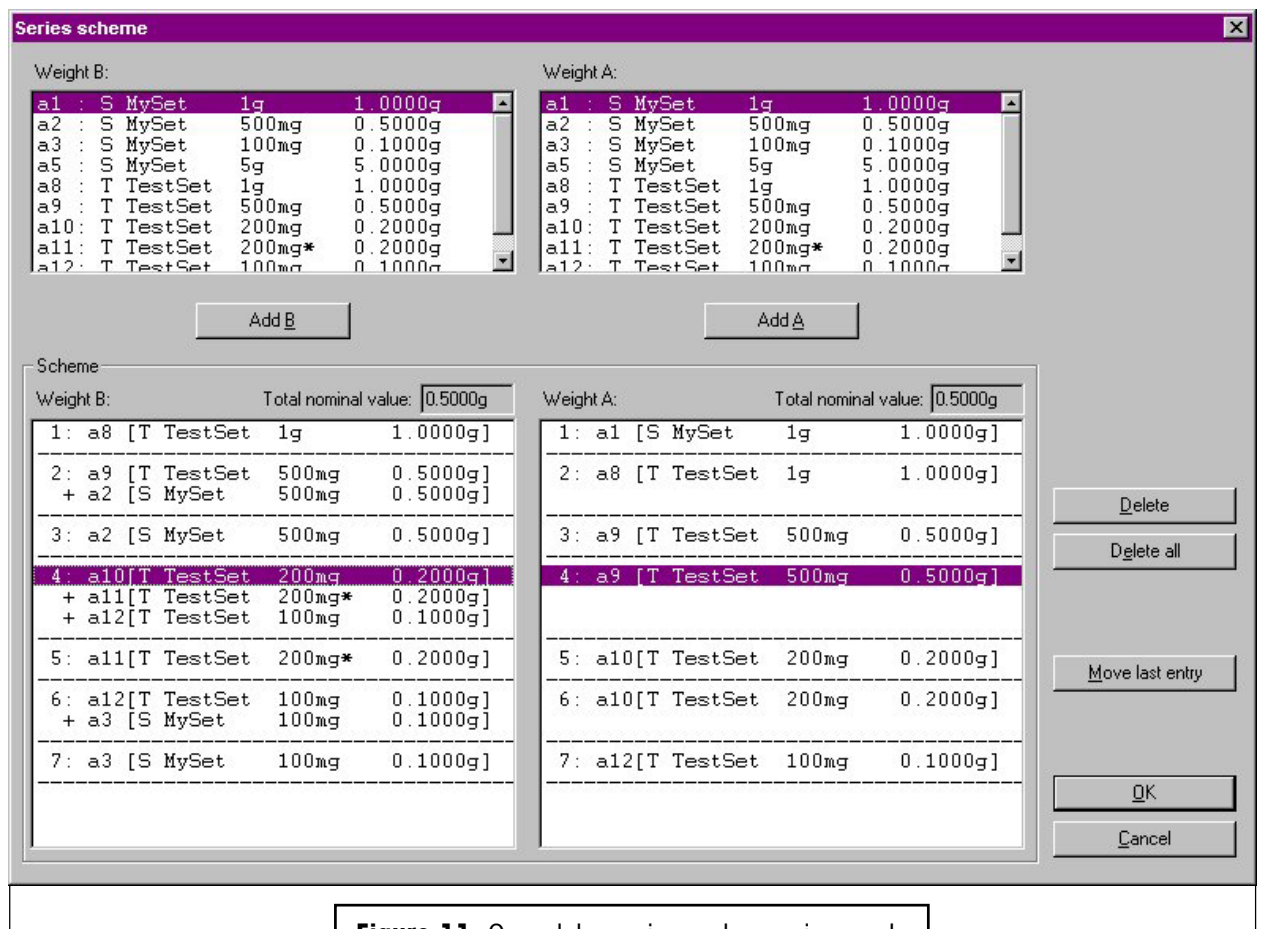

Figure 11 Complete series scheme in mode 'Down-/upward calibration'
After setting these parameters, it remains to determine the series scheme (design), i.e. which comparisons shall be performed and in which sequence. A separate window ('Series scheme', see Figure 11) makes it as easy as it can possibly be. The upper list boxes 'Weight B:' and 'Weight A:' both contain all available weights, i.e. all test weights and all standards to which one magazine place is allocated. The series scheme, displayed in the lower list boxes ('Scheme - Weight B:' and 'Scheme - Weight A:'), consists of a list of comparisons between two combinations of up to three weights each. Each comparison is entered as follows:
- If you wish to enter a combination of more than one weight, repeat the previous two steps (the symbol '+' in the 'Scheme' list boxes indicates that a combination is entered - see Figure 11 - and the total nominal value of the combination is displayed on the top of the 'Scheme' list boxes)